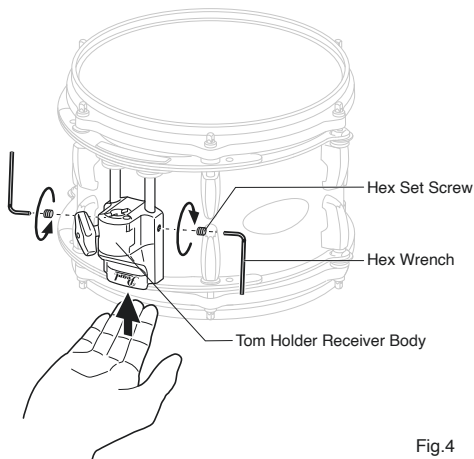
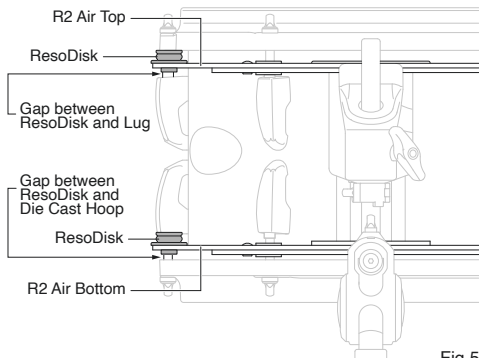

Fig.4
Fig.5
4. To set the depth of the R2 Air Suspension System correctly on your drum, start with the drum tuned and upside down, with the bottom facing upward on a flat surface. Then adjust the bottom Radial Mount Plate downward so the ResoDisk lightly touches the top of the lug. Next, check that the batter side ResoDisk is resting on the bottom of the Die Cast Hoop. Tighten the Hex Set Screws to secure the Slide Shaft into place (Fig.4). Flip the drum over, and the ResoDisk should be set as shown in (Fig.5).
5. Next, attach the drum to a tom holder and ensure it is stable and secure and that all four ResoDisk support it correctly, as shown in (Fig.5).